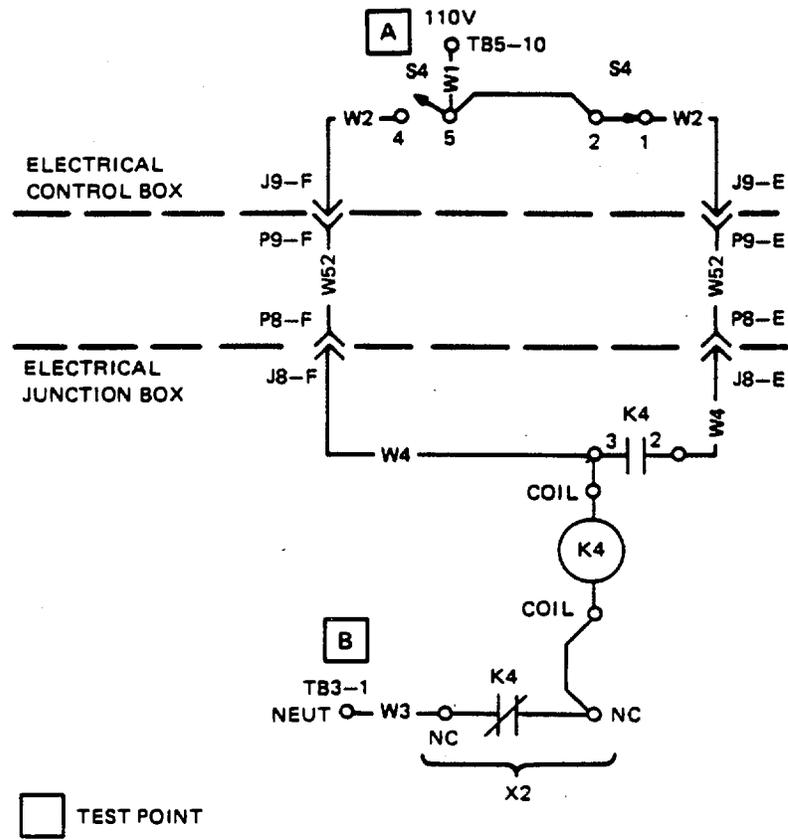

Figure 3-11. Raw Water Pump No. 2 Assembly Support Diagram
Ensure that all circuit breakers are set. Refer to figure FO-3 for schematic diagram and figure FO-4 for interconnection diagram. Refer to figure 3-1 for control box support diagram, figure 3-2 for junction box support diagram, and figure 3-11 for raw water pump no. 2 support diagram.
- Step 3. Shut down ROWPU. Refer to TM 10-4610-239-10. Shut down power. Refer to generator manual. Refer to raw water pump no. 2 assembly support diagram figure 3-11. Hold RAW WATER PUMPS NO. 2 switch in START position. Check continuity point-to-point between test points A and B through S4-5 and S4-4.
- Step 4. Shut down ROWPU. Refer to TM 10-4610-239-10. Shut down power. Refer to generator manual. Refer to raw water pump no. 2 assembly support diagram figure 3-11. Hold RAW WATER PUMPS NO. 2 switch in START position. Check continuity point-to-point between test points A and B through S4-2 and S4-1.